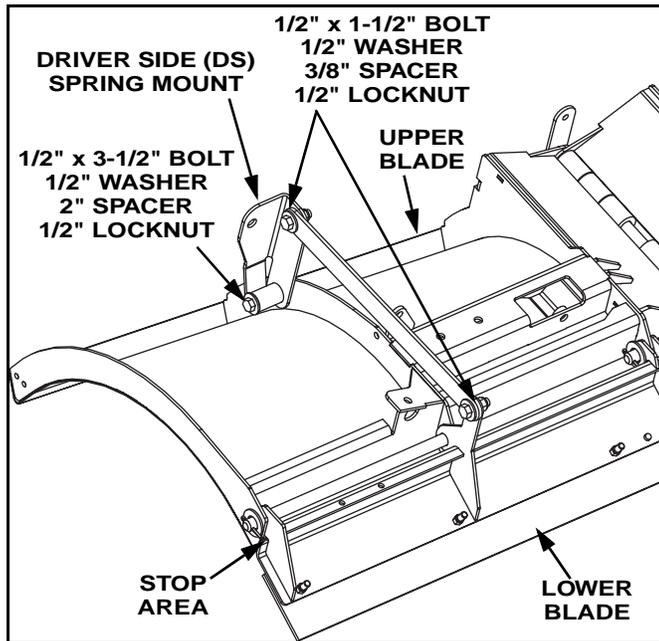
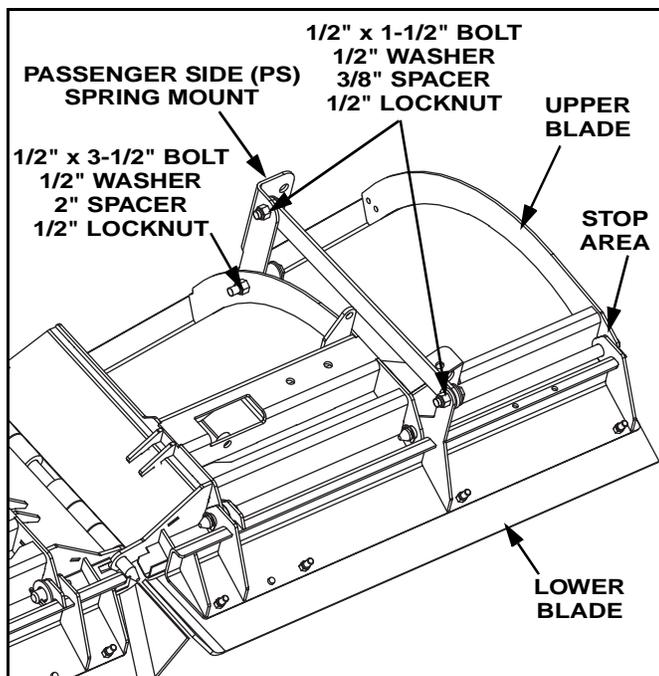

Figure 1-4 (Drivers Side)
Figure 1-5 (Passengers Side)
2. Place blocking under the upper blade so that the lower blade swings forward and the stop areas on the upper and lower blade touch. (See Figure 1-4 and Figure 1-5)
4. Take out the Drivers Side Spring Mount. Place a 2" spacer in the tube on the mount. (See Figure 1-4)
5. Bolt the Drivers Side Spring Mount to the inner rib on the drivers side wing using a 1/2" washer on the spacer side, 1/2" x 3 1/2" bolt, and 1/2" lock nut. (See Figure 1-4)
6. Take a Spring Mount Plate and two 3/8" spacers and bolt it to the Spring Mount and the tab on the lower blade. Use two 1/2" washers on the spacer side, two 1/2" X 1 1/2" bolts, and two 1/2" lock nuts. (See Figure 1-4)
7. Install the Passengers Side Spring Mount on the inner rib of the passengers side wing, and repeat steps 4-6 on the passenger side of the blade. (See Figure 1-5)